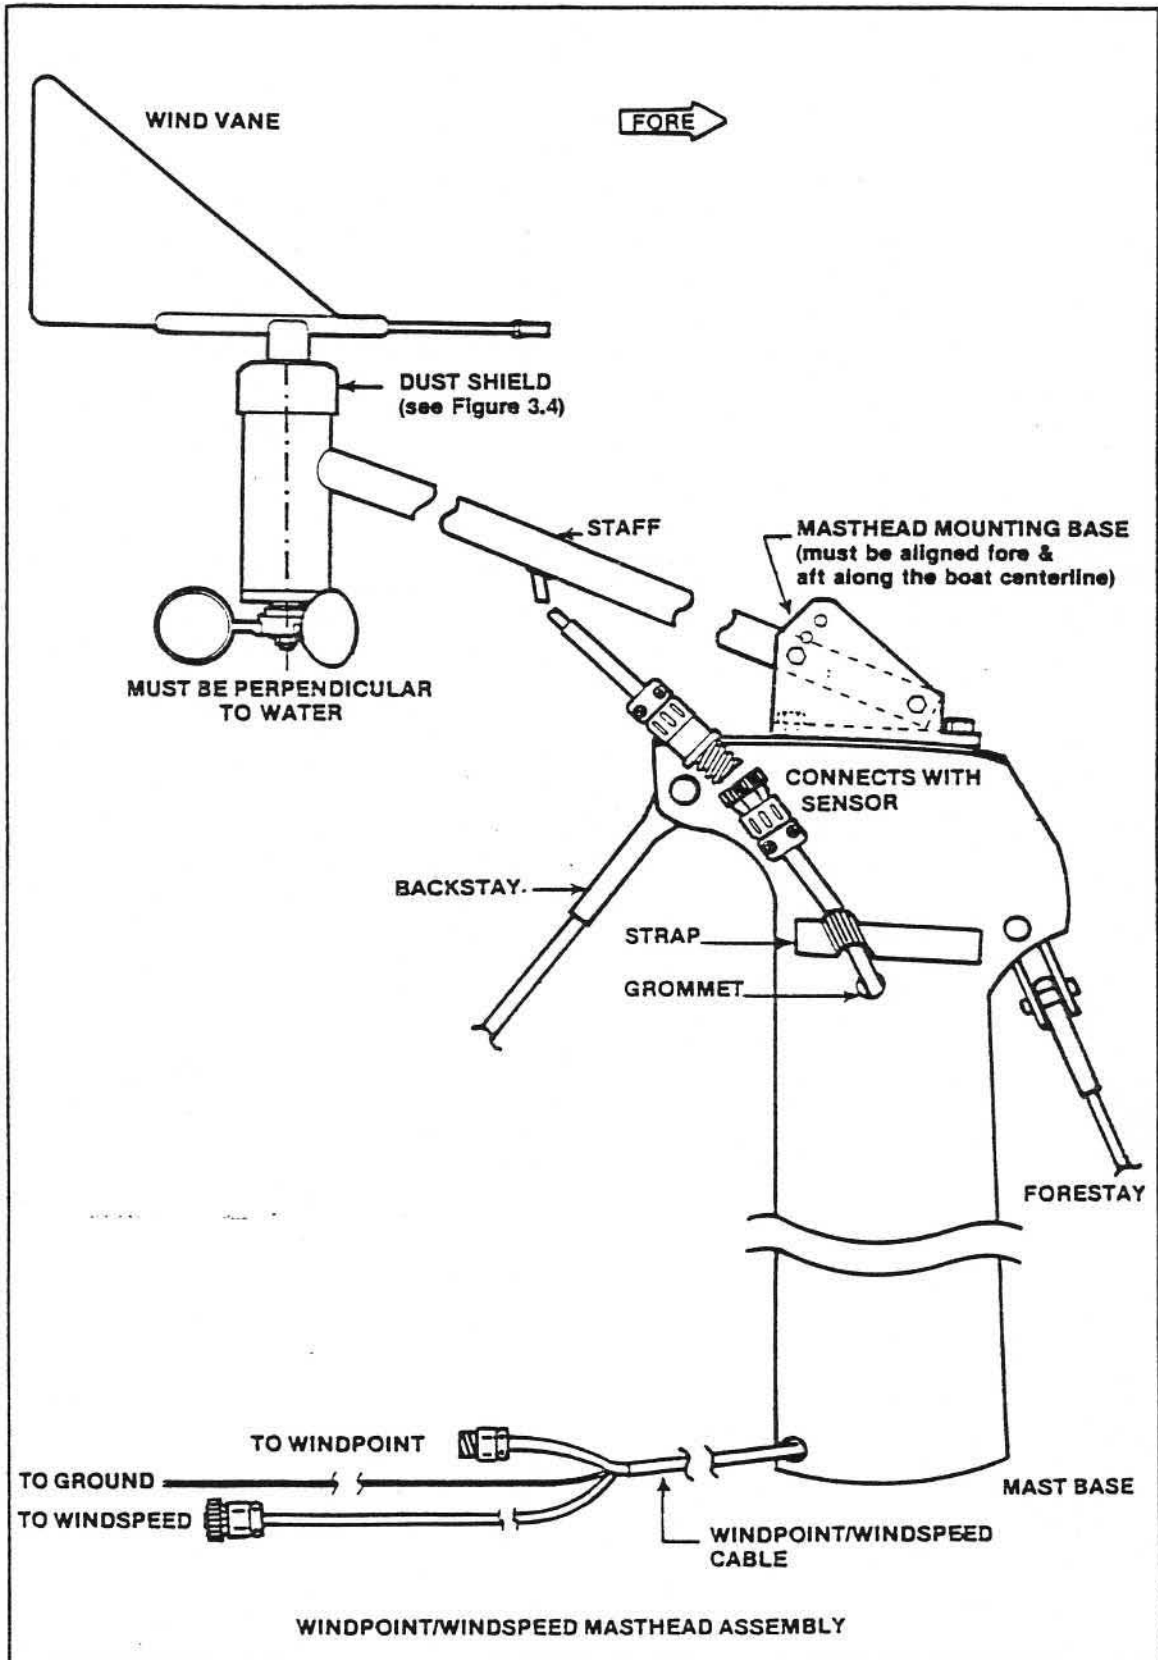

Figure 3.6
To install WP/WS Combo Masthead Staff see Figure 3.6.
2. At the top of the mast, place the staff in the mounting base and adjust the staff angle until the transducer body is vertical (refer to Figure 3.6). A shim under the base may be used to assume a vertical position.
5. Secure the masthead cable to the mast to relieve any pressure from the cable connection. (Refer to Figure 3.6).